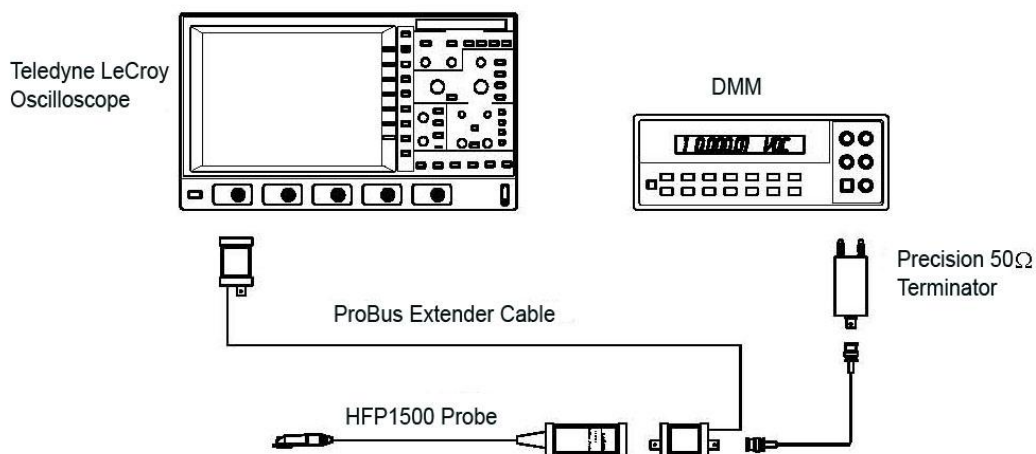

Figure 5 Output Zero Voltage Test Setup
2. Connect the banana plugs of the Precision terminator to the input of the DMM. Make sure that the plug corresponding to the BNC shield (marked "Ground") is connected to the **LO** or **COMMON** input of the DMM. Refer to Figure 5 Output Zero Voltage Test Setup for setup information.